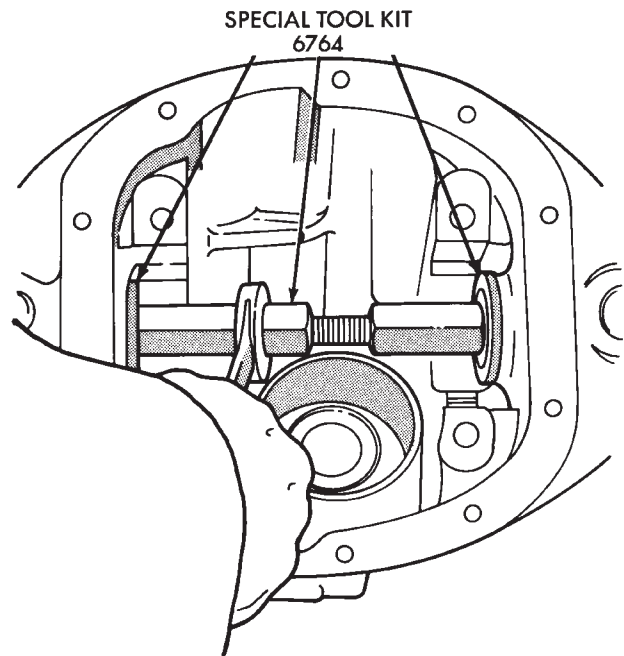

Fig. 25 Axle Seal Installation
(1) Remove the inner axle shaft seals with a pry bay.
(2) Install oil seals with Discs 6764 and Turnbuckle D-112-A (Fig. 25). Tighten tool until disc bottoms in housing.